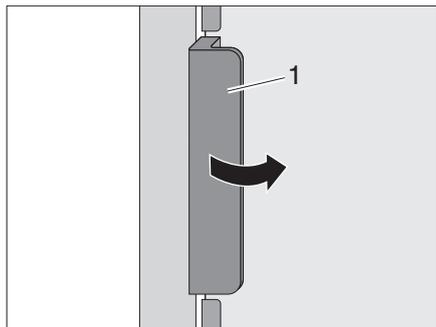
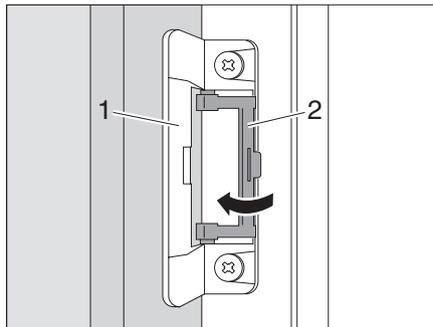

Fig. 90 Opening the refrigerator door
Fig. 91 Locking in the ventilation position
- ▶ Open the refrigerator door using the handle (Fig. 90,1). The locking mechanism (Fig. 91,1) is released automatically.
- ▶ Fold open the latching mechanism (Fig. 91,2).